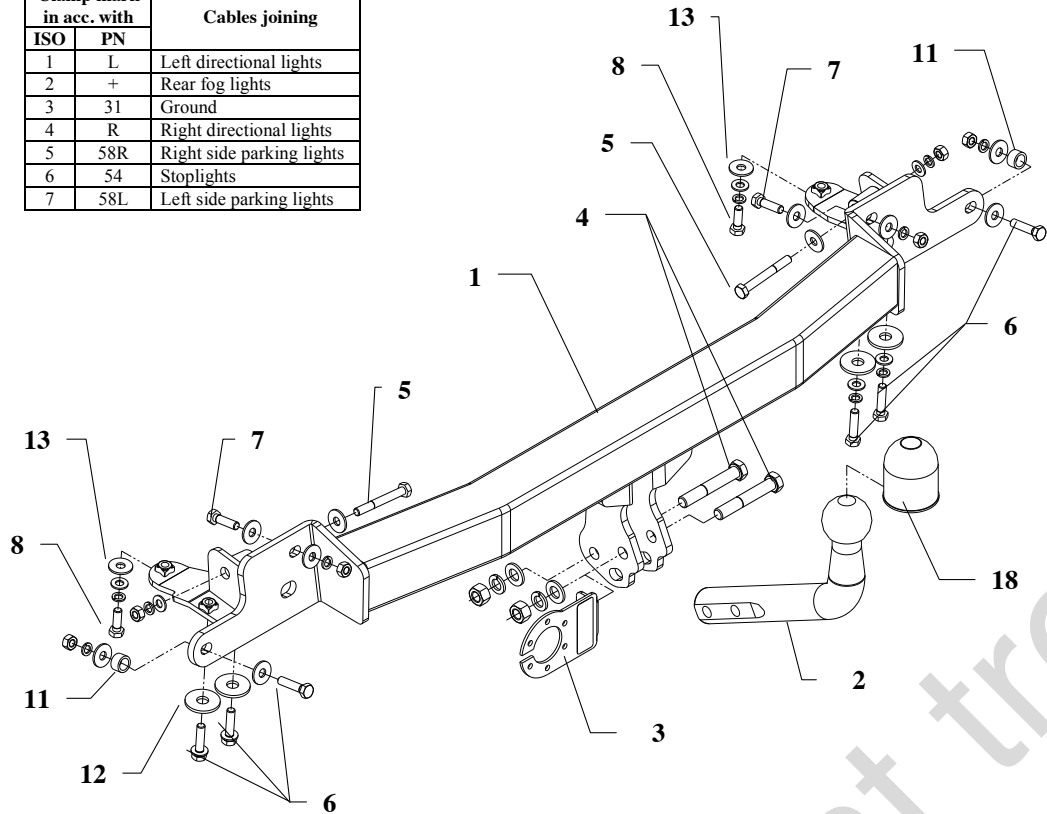

Fig. 1
4. Slip main bar of towbar (pos. 1) to rear chassis members and screw using bolts, nuts and sleeves – as shown in the figure 1.
8. Screw tow-ball (pos. 2) and socket plate (pos. 3) using bolts M12x75mm (pos. 4) from accessories.